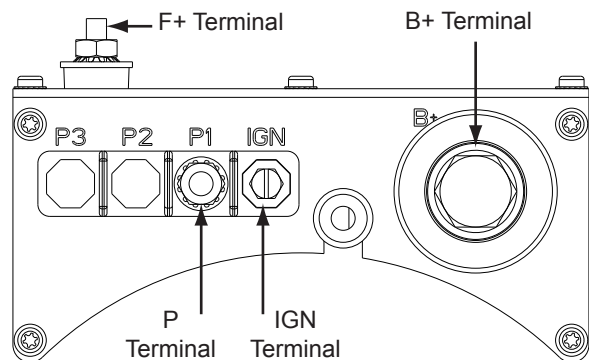

Figure 4: Vehicle Electrical Connections
- **IGN terminal** (required) must receive voltage from vehicle DC ignition source, oil pressure switch, or multiplex in order to energize regulator. Torque to 2.3 Nm/20 lb. in. See Figure 4.
- **P/AC terminal** (if required) taps AC voltage from alternator, typically half the charge voltage (3A maximum). P/AC terminal provides alternator RPM frequency at 10:1 ratio for use with tachometer. Torque terminal hardware to 8.5 Nm/75 lb. in. See Figure 4.
- **F+ terminal:** If using a battery isolator in the system, connect F+ terminal directly to main battery bank positive terminal using appropriate wire gauge for 15 amp maximum load. If NOT using a battery isolator, F+ may be fixed directly to alternator B+ terminal using minimum 14 gauge wire. See Figure 4.